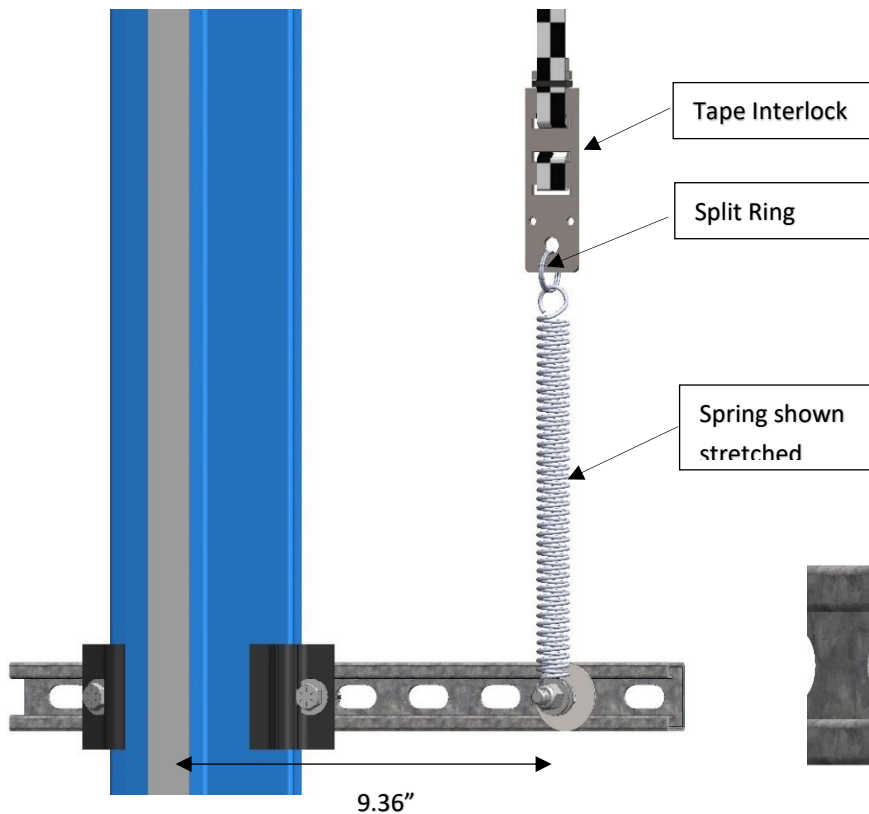

Figure 18: Bottom Tape Installation
- Loosely assemble the Lower Tape Mounting Assembly in the order shown in figure 18.
- Thread the Nylock nut onto the bolt until the two flat washers that are on either side of the Spring are just touching the spring loop as shown in figure 18. This nut does not need to be tightened.